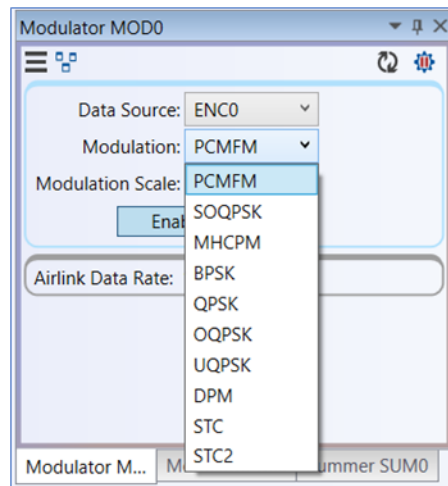

Figure 177: Modulation Drop Down Menu
- Modulation – Waveform modes are selected using the down arrow to access the drop down menu, as shown in Figure 177. Available modes are: